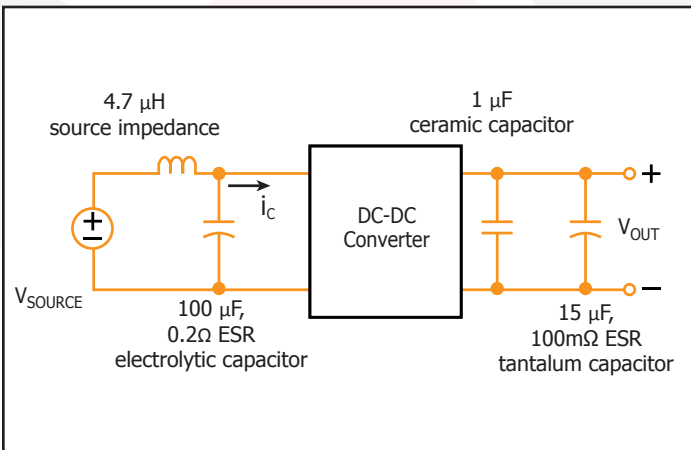

Figure 17: Test set-up diagram showing measurement points for Input Terminal Ripple Current (Figure 9) and Output Voltage Ripple (Figure 10).
**Figure 9:** Input terminal current ripple,  $i_C$ , at full rated output current and nominal input voltage with SynQor MCOTS filter module (500 mA/Ω/div). Bandwidth: 20MHz. See Figure 17.
**Figure 10:** Output voltage ripple,  $V_{out}$ , at nominal input voltage and rated load current (20 mV/Ω/div). Load capacitance: 1µF ceramic capacitor and 15µF tantalum capacitor. Bandwidth: 10 MHz. See Figure 17.